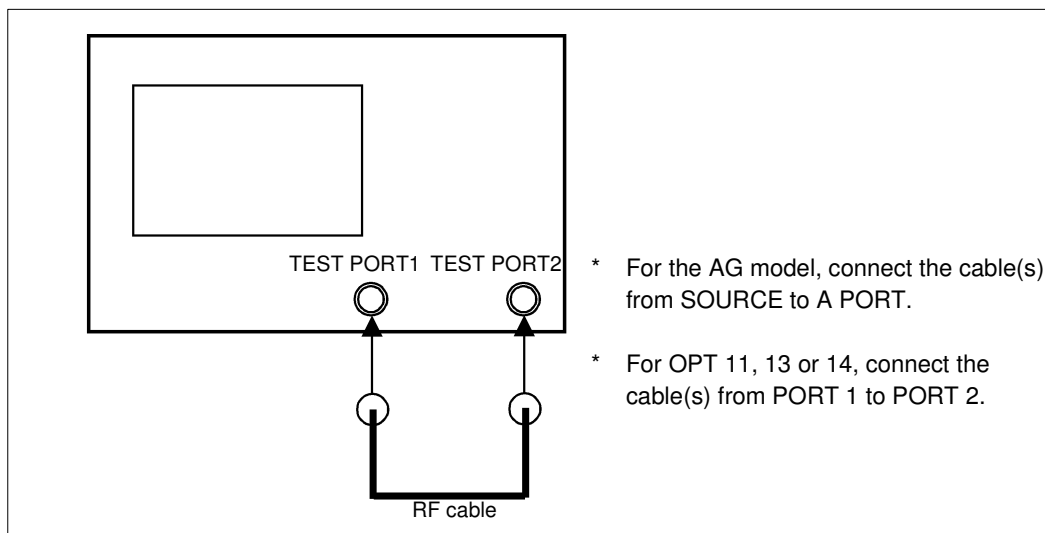

Figure 10-38 Connections for Attenuation Accuracy Measurements
- (1) Connect the RF cable and conversion connector (for OPT 12 or 13, only the RF cable is used) from TEST PORT 1 to TEST PORT 2 as shown in Figure 10-38.